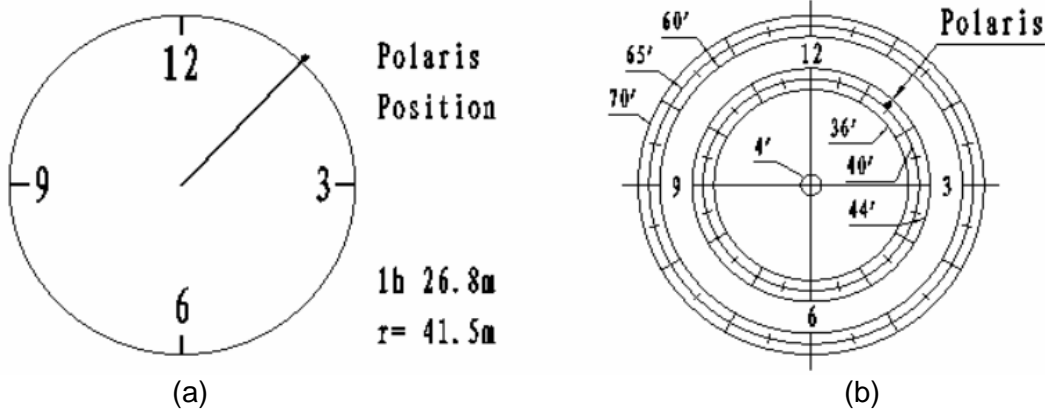

Figure 12. Place the Polaris at the position as shown on hand controller
6. Make sure that the time and site information of the hand controller is correct. Press the **MENU** button, then select “Align” and “Pole Star Position” to display the current Polaris position. For example, on May 30, 2010, 20:00:00 in Boston, United States (Lat N42°30'32” and Long W71°08'50”, 300 min behind UT, DST set to Y), the Polaris Position is 1hr 26.8m and $r = 41.5m$, as shown in Figure 12 (a).
7. Adjust the mount in altitude (latitude) and azimuth (heading) direction to place Polaris in the same position on the Polar Scope Dial as indicated on the HC LCD. In this case, the Polaris will be located at a radius of 41.5' and an angle of 1 hour 26.8 minute, as shown in Figure 12 (b).